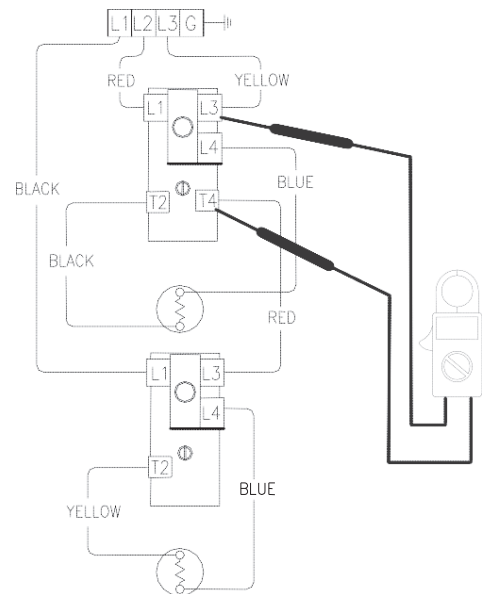

Figure 43
6. Check voltage across terminals L3 & T4 of upper thermostat (see Figure 43).